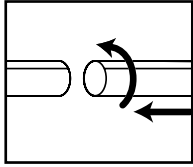

FIGURE 11
15. Attach the extension wands to the accessory end of the hose. Twist slightly to tighten the connection. **FIGURE 11.**
16. Attach one of the cleaning accessories (depending on your cleaning requirements) on the extension wands. Twist slightly to tighten the connection. **FIGURE 11.**